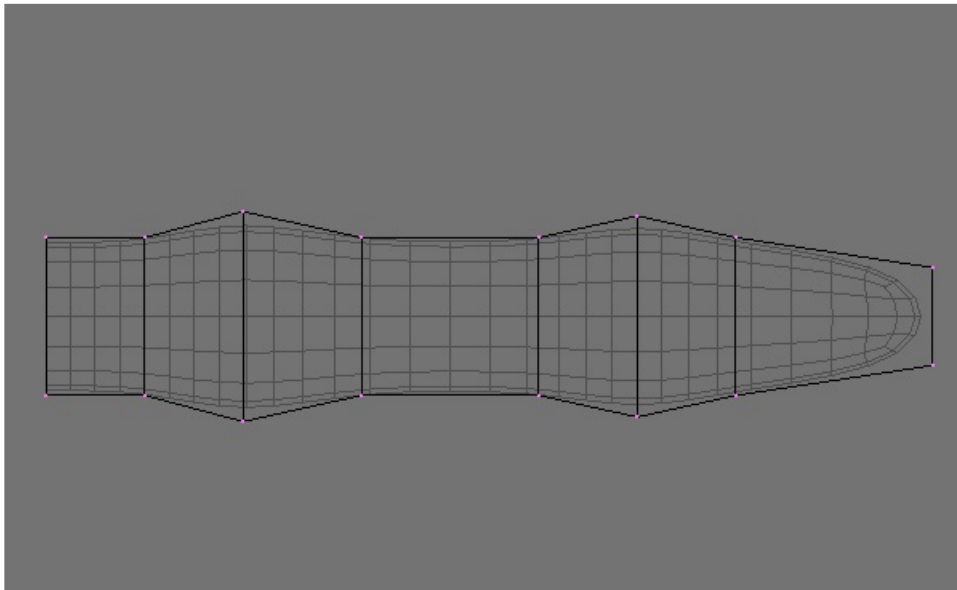

Fig 2. The top view of the beginning of the finger. You want two knuckles and then a narrow part in between where the bones are.
4. By selecting points and moving them around you can shape your mesh. So go into top view (Numpad 7) and adjust points so you have something that looks like Figure 2. Try to think of this like sculpting clay... or pulling a mesh into shape. It is no good saying move vertex number x to point x,y,z. Just move things around until it looks right.